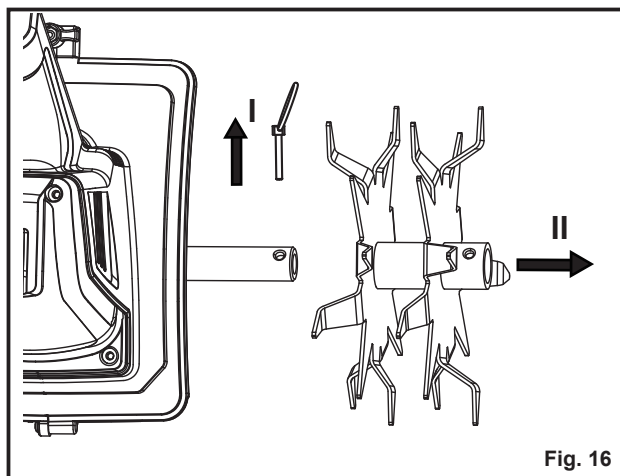

Fig. 16
1. Rotate the ring to pull out the locking pin and remove the blade (Fig. 16).